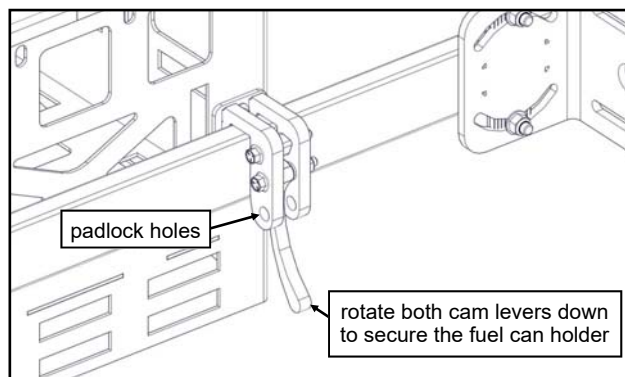

Fig. 9 (cam lever in the closed position)
9. To secure the fuel can holder to the Tool Bar, rotate both cam levers DOWN until they cam over. See fig. 9.
NOTE: For additional security, the fuel can holder can be locked to the Tool Bar by inserting a padlock through the holes in the mounting bracket where shown in fig. 9.